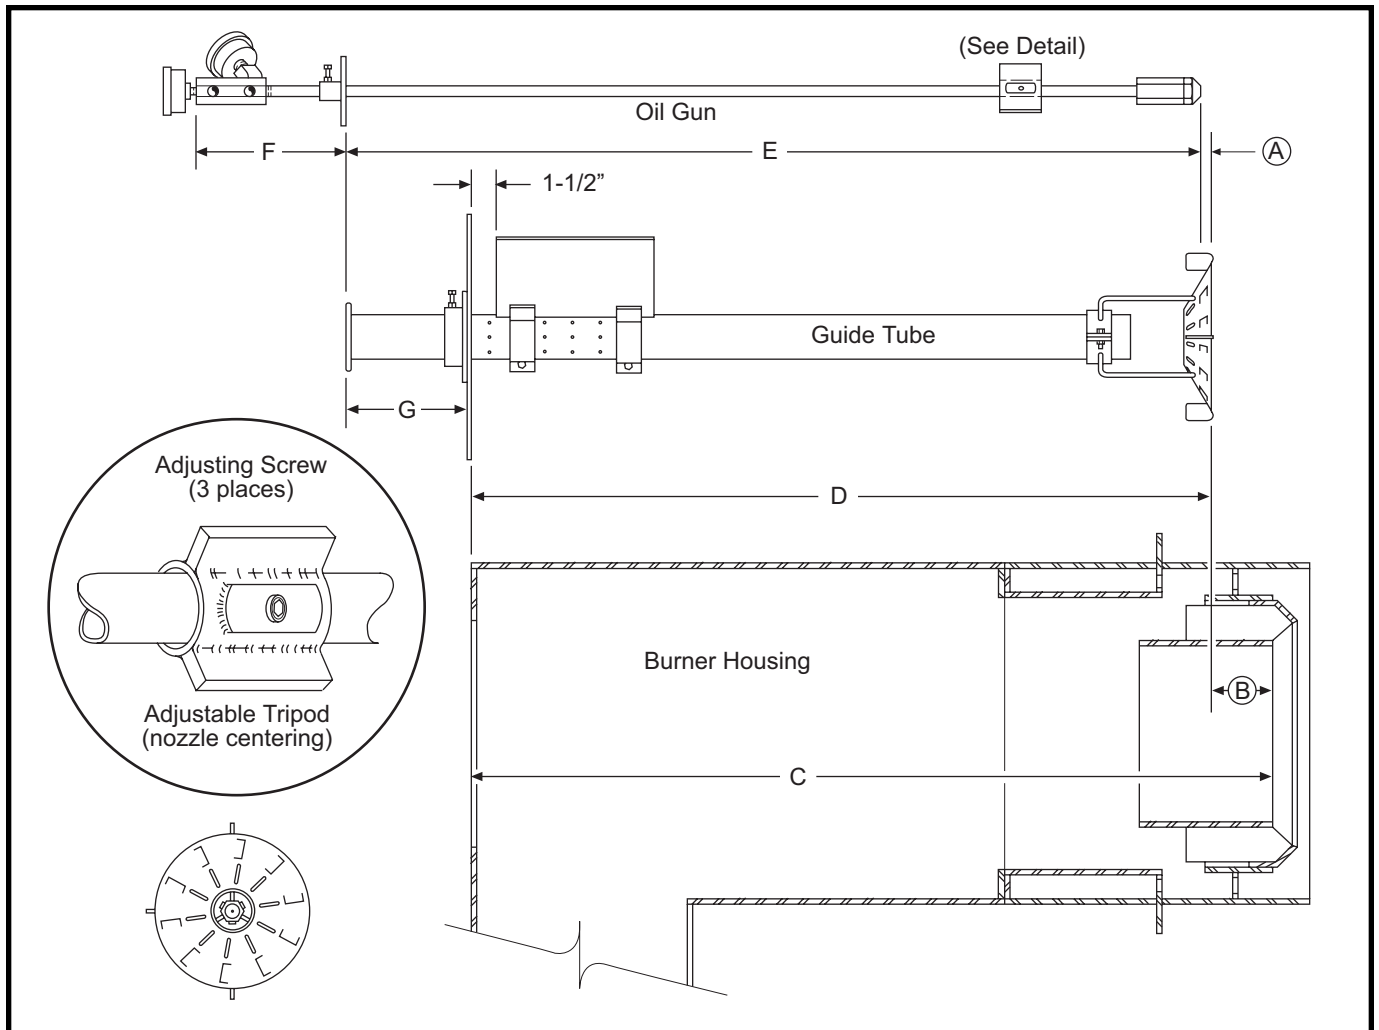

Figure 5-7B Dimensioning Detail and Oil Drawer Assembly with Quick Draw Oil Gun
ADJUSTMENT: (See Figure 5-7b)
3. Determine the value of dimension **(B)**, then check for this dimension. If adjustment is necessary, refer to Figure 5-7B and measure to obtain dimensions C and D. The **(B)** dimension is the difference between dimensions C and D.